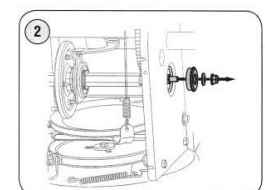

Figure 25
3. Carefully remove the hex nut and washer which secures the hex shaft to the snow thrower frame and lightly tap the shaft's end to dislodge the ball bearing from the right side of the frame. See Figure 25.